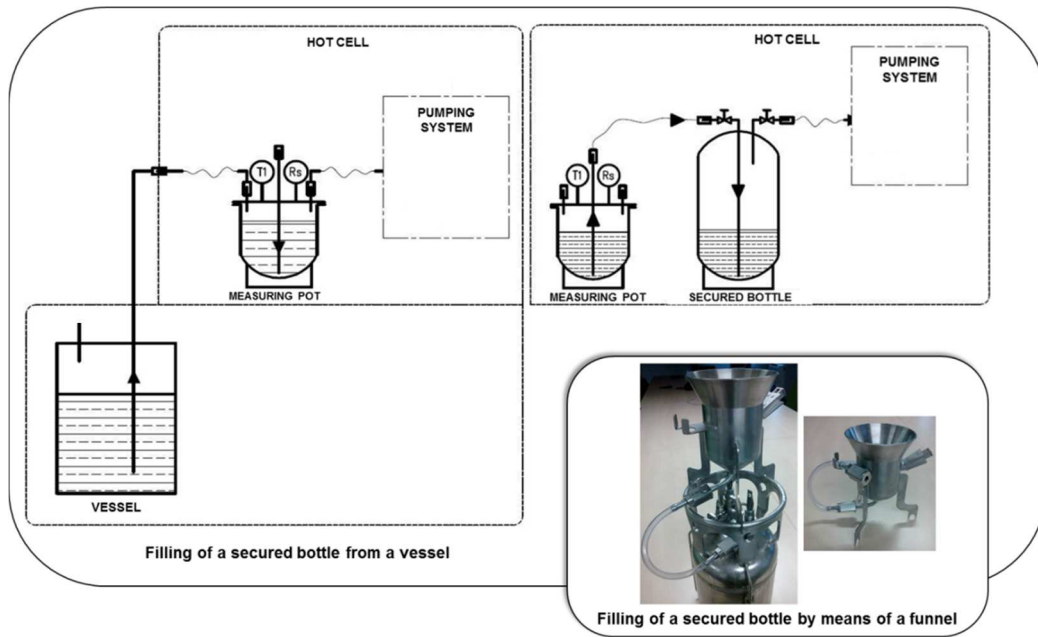

Figure 4: Filling the secured bottle in a hot cell
- filling the secured bottle in shielded line A (Cf. figure 4) :